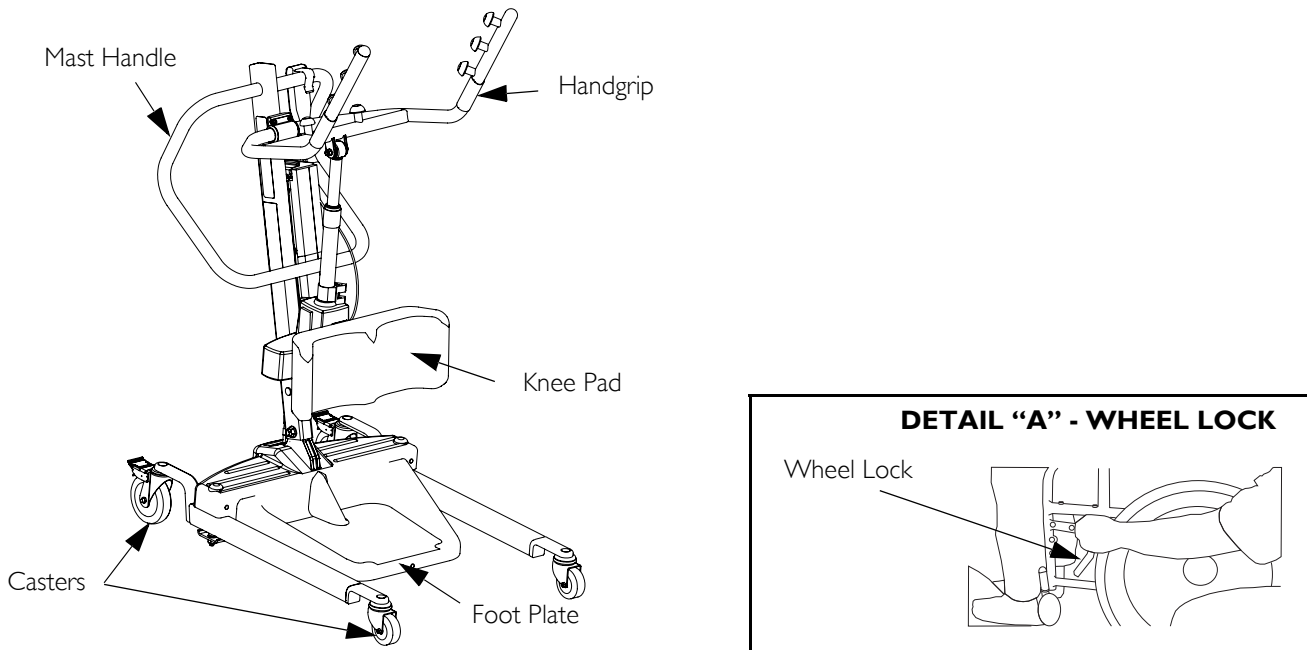

FIGURE 4.2 Lifting the Patient
NOTE: For this procedure, refer to FIGURE 4.2 on page 16.
1. Instruct the patient to hold onto the hand grips on both sides of the stand up lift (Detail "A" of FIGURE 4.2).
4. If transferring from a wheelchair, lock the wheel locks on the wheelchair (Detail “B” of FIGURE 4.2).